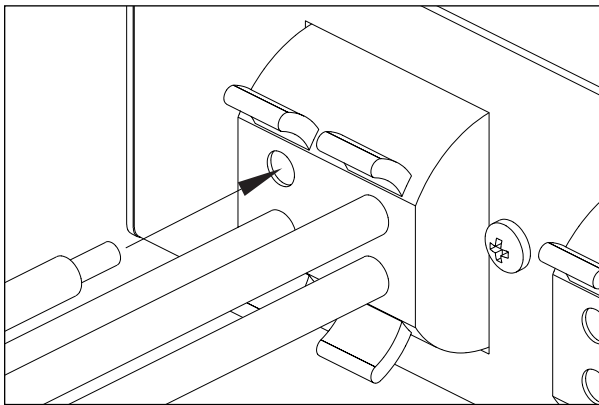

Figure 3
3. Make the connections to the SPS-4. Strip 3/8" of insulation from the end of each wire. Tightly twist the end of each wire until there are no frayed ends. Insert each wire into the appropriate hole on the spring-loaded connector terminals. Be certain that proper phasing is observed—connect the positive terminals on the SPS-4 to the positive terminals on the amplifier and speakers and the negative terminals on the SPS-4 to the negative terminals on the amplifier and speakers. See (Figure 3).